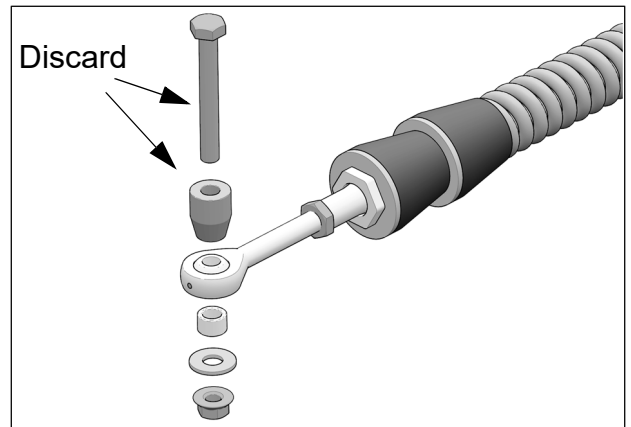

Fig. 3
4. Remove bolt, washer and spacer bushings from the rear stabilizing rod end. Discard the M10x80 mm bolt and the tapered spacer bushing from the disassembled set of parts. See Fig. 3